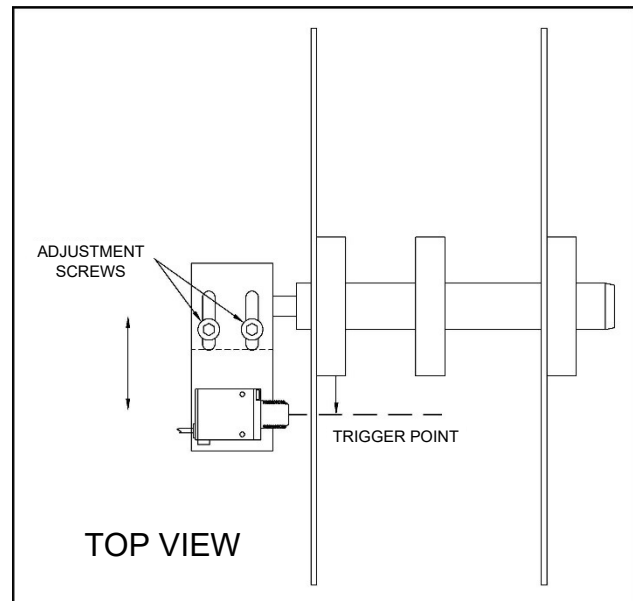

Figure 19 Low Label Alarm Adjustment
3. Use a 9/64 inch hex head wrench to loosen the low label detector's adjustment screws. See *Figure 19*.